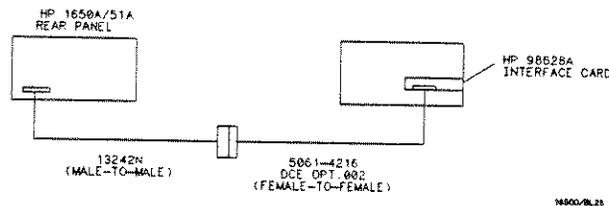

Figure 2-1. Cable Example
Figure 2-1 is an example of how to connect the HP 1650A/51A to the HP 98628A Interface card of an HP 9000 series 200/300 controller. For more information on cabling, refer to the reference manual for your specific controller.
*Since this example does not have the correct connections for hardware handshake, XON/XOFF protocol must be used when connecting the HP 1650A/51A as shown in figure 2-1*